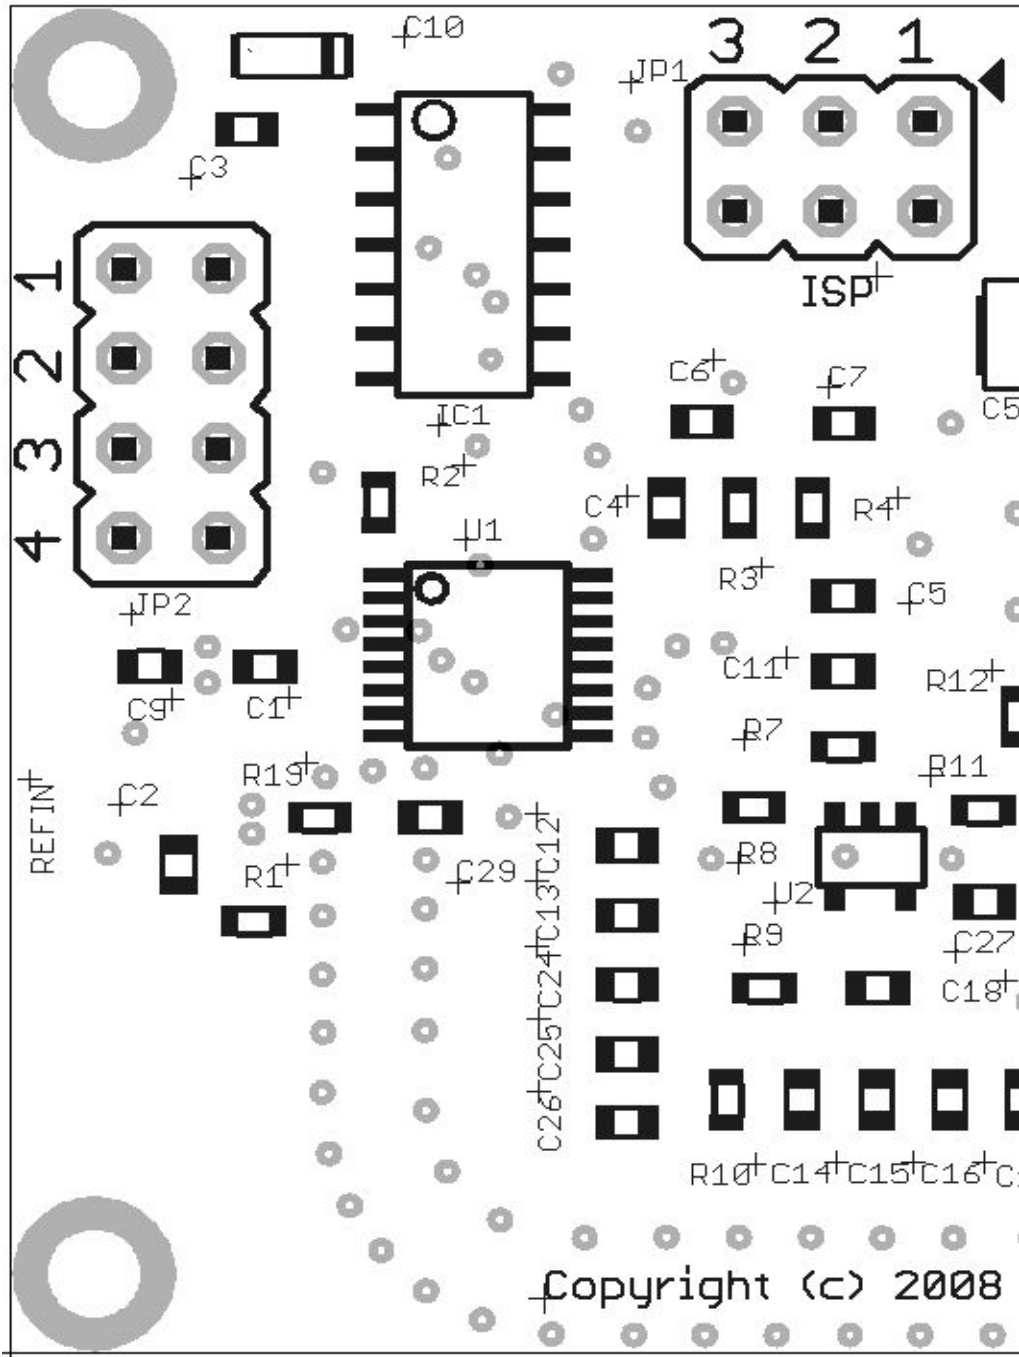

Figure 1
Opening the Model 1152-A to change Reference or Frequency Options is accomplished by removing the six (6) 0-80 Phillips head screws from the top cover. These screws are very small so put them in a safe place until time to put them back. After the cover is opened, you will notice there are (4) four jumper options (JP2) in the upper left corner next to the reference-input port. *See figure 1 below.* There are four (4) jumper shunts included with the unit as shipped, and these shunts are used to select a frequency option using the settings shown in Table 4 above.
Remember the “**O**” is for **OPEN** (no jumper installed), and “**S**” is for **SHORTED** (jumper installed). The jumper layout is shown in Figure 1 below. Changing a jumper